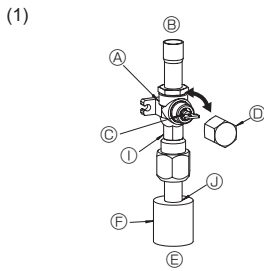
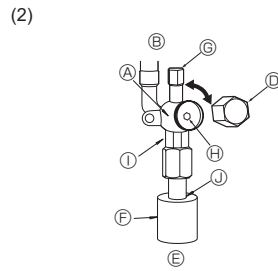

Fig. 4-6
Fig. 4-7
(1) Gas side (Fig. 4-6)
- ① Remove the cap, pull the handle toward you and rotate 1/4 turn in a counter-clockwise direction to open.
- ② Make sure that the stop valve is open completely, push in the handle and rotate the cap back to its original position.
(2) Liquid side (Fig. 4-7)
- ① Remove the cap and turn the valve rod counterclockwise as far as it will go with the use of a 4 mm hexagonal wrench. Stop turning when it hits the stopper. (ø9.52: Approximately 10 revolutions)